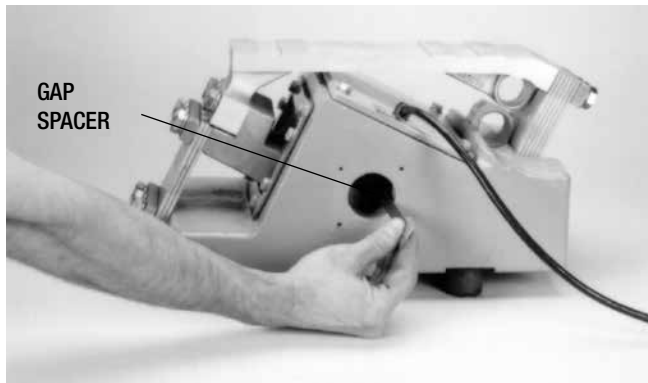

FIGURE 4
Refer to Figs. 4, 5, 6 & 7.
1. Remove both nameplates and insert the gap spacers (furnished with the unit) between the E-frame center leg and the two armature pole pieces (see Figure 4 & 5).